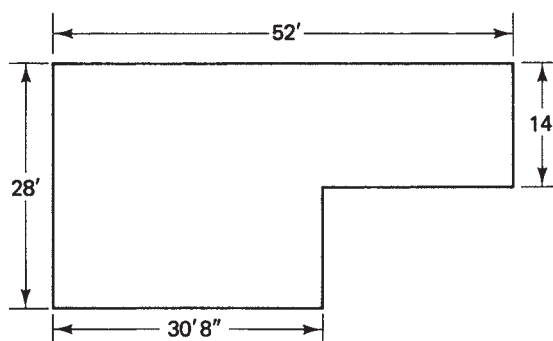

Figure 15–3
- C. Determine the number of studs needed 24 in. o.c. to frame the exterior walls of the building shown in Figure 15–3.